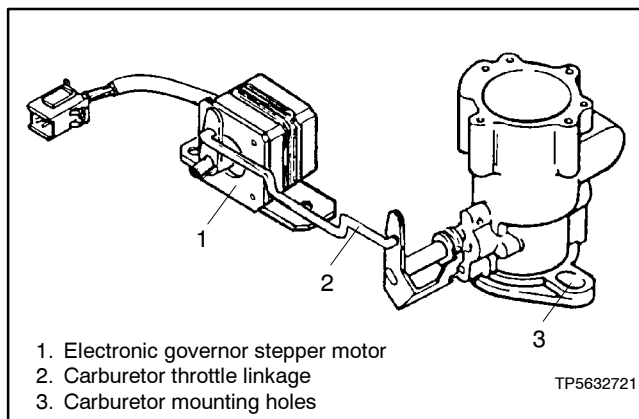

Figure 6-16 Stepper Motor and Carburetor
3. Hold the throttle linkage steady while the engine is running. See Figure 6-16. If the engine runs at a steady speed with no hunting or surging when the throttle is held steady, then the hunting/surging problems during operation are probably caused by the governor. Proceed to Section 6.9.4.
1. Verify that the carburetor throttle linkage is connected to the stepper motor as shown in Figure 6-16.
Perform the following procedure with the generator set running. Move the stepper motor linkage shown in Figure 6-16 to increase the engine speed. *Do not use the speed adjustment potentiometer to increase the engine speed.*